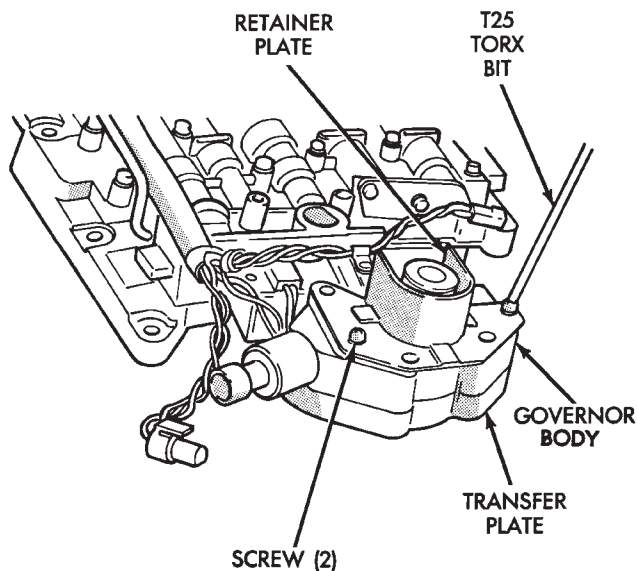

Fig. 91 Governor Body And Retainer Plate Attaching Screw Removal/Installation
- (2) Remove screws attaching governor body and retainer plate to transfer plate (Fig. 91).